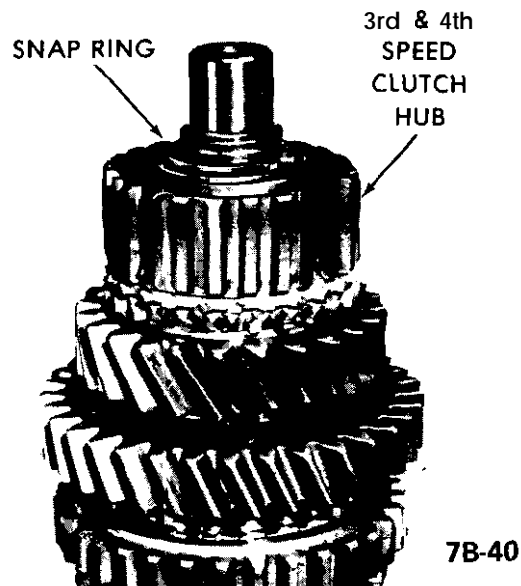

Figure 7B-40 Securing Third and Fourth Speed Clutch Hub on Mainshaft With Snap Ring
5. Using external snap ring pliers, secure gear shifter sleeve carrier on mainshaft with snap ring. See Figure 7B-40.